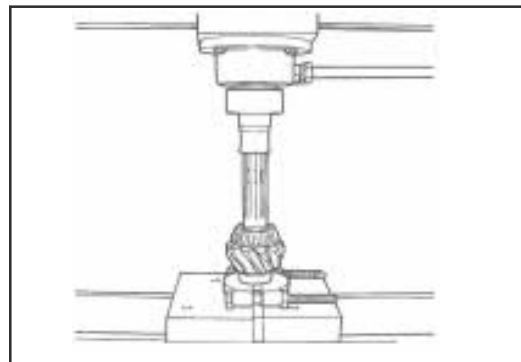

Fig. 11
1. Press the pilot bearing on to the pinion (Fig.11).